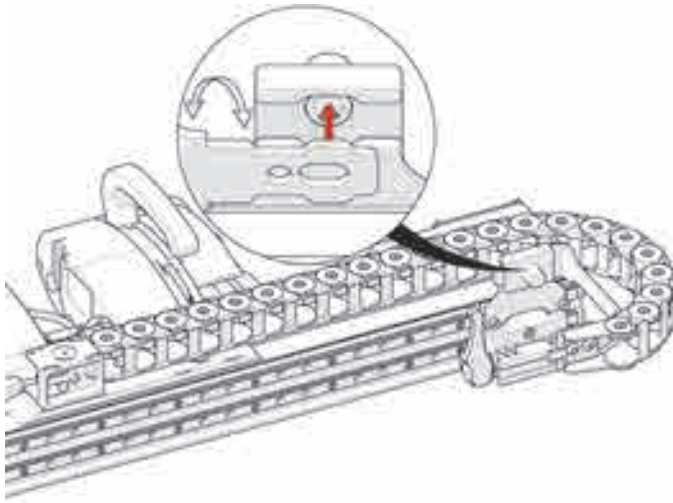

Figure 4-41 Press bracket to carriage
2. Press the cable tray bracket into the rear of the carriage bracket (see Figure 4-41 on page 126).